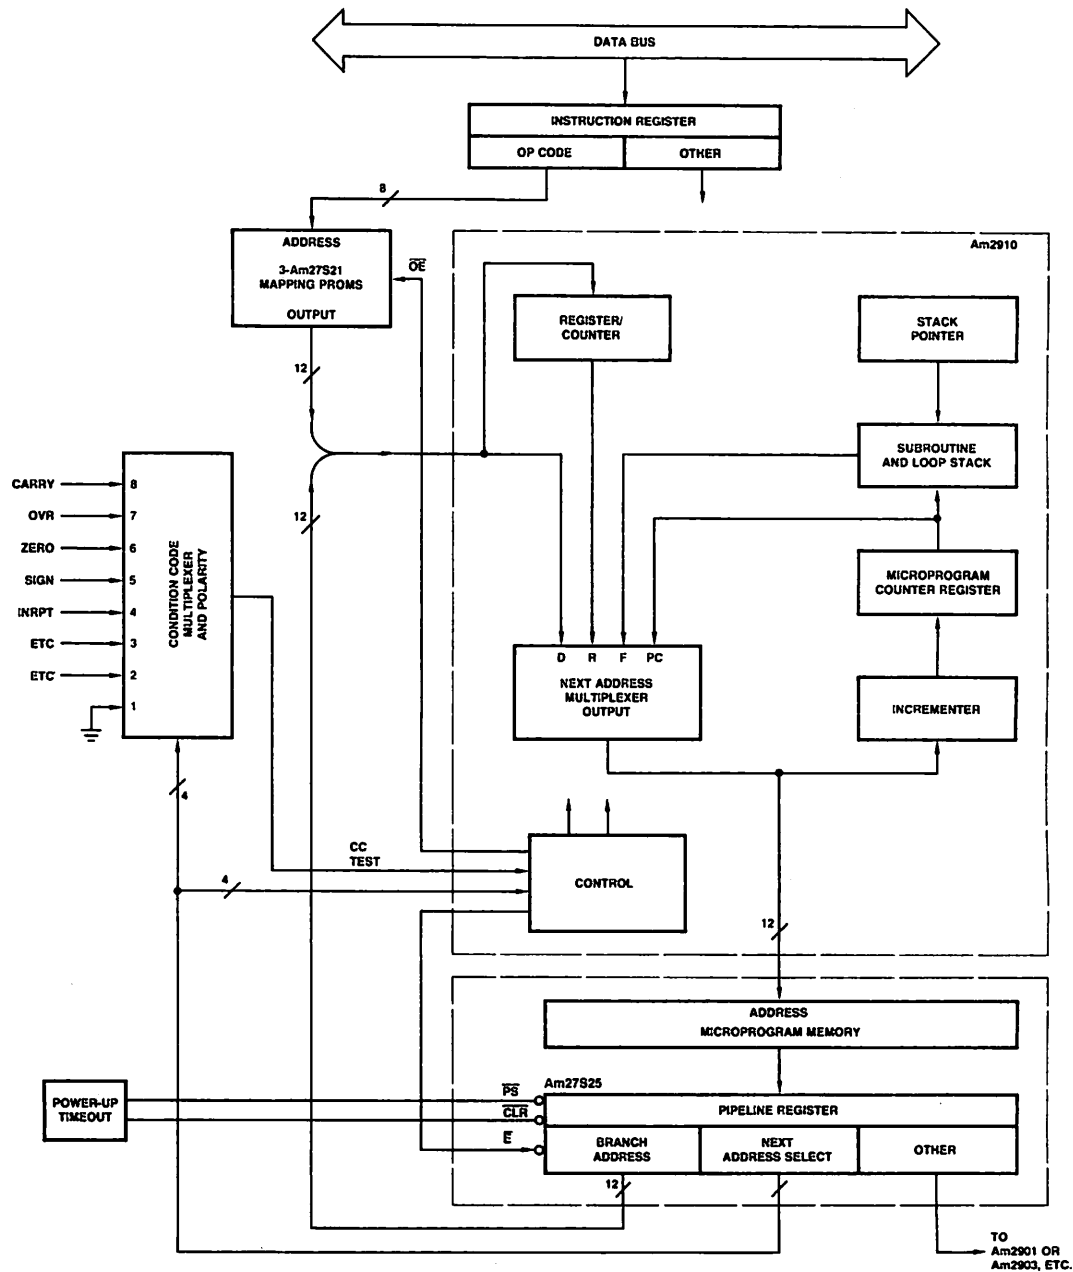

Figure 1. A Typical Computer Control Unit Using the Am27S25.
The microprogram memory control unit block diagram of Figure 1 is easily implemented using the Am2910 and the Am27S25 registered PROMs. This architecture provides a structured state machine design capable of executing many highly sophisticated next address control instructions. The Am2910 contains a next address multiplexer that provides four different inputs from which the address of the next microinstruction can be selected. These are the direct input (D), the register input (R), the program counter (PC), and file (F). The starting address decoder (mapping PROM) output and the Am27S25's pipeline register output are connected together at the D input to the Am2910 and are operated in the three-state mode.
The architecture of Figure 1 shows an instruction register capable of being loaded with a machine instruction word from the data bus. The op code portion of the instruction is decoded using a mapping PROM to arrive at a starting address for the microinstruction sequence required to execute the machine instruction. When the microprogram memory address is to be the first microinstruction of the machine instruction sequence, the Am2910 next address control selects the multiplexer D input and enables the three-state output from the mapping PROM. When the current microinstruction being executed is selecting the next microinstruction address as a JUMP function, the JUMP address will be available at the multiplexer D input. This is accomplished by having the Am2910 select the next address multiplexer D input and also enabling the three-state output of the pipeline register branch address field. The register enable input to the Am2910 can be grounded so that this register will load the value at the Am2910 D input. The value at D is clocked into the Am2910's register (R) at the end of the current microcycle, which makes the D value of this microcycle available as the R value of the next microcycle. Thus, by using the branch address field of two sequential microinstructions, a conditional JUMP-TO-ONE-OF-TWO-SUBROUTINES or a conditional JUMP-TO-ONE-OF-TWO-BRANCH-ADDRESSES can be executed by either selecting the D input or the R input of the next address multiplexer.